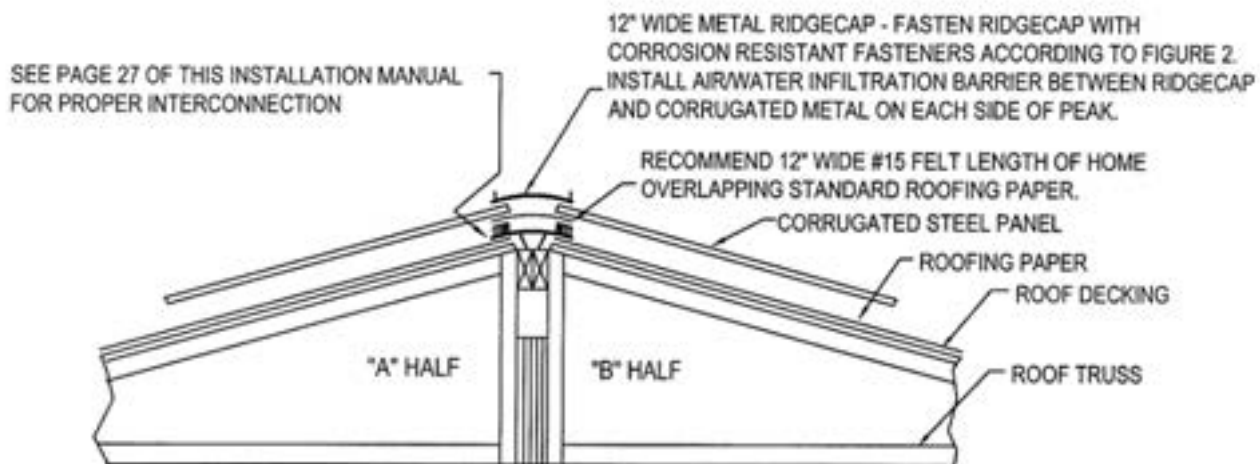

FIGURE 1 - RIDGE CONSTRUCTION FOR CORRUGATED METAL ROOF
4. FASTEN RIDGECAP ACCORDING TO FIGURE 1 AND FIGURE 2. DO NOT OVERDRIVE NAILS.